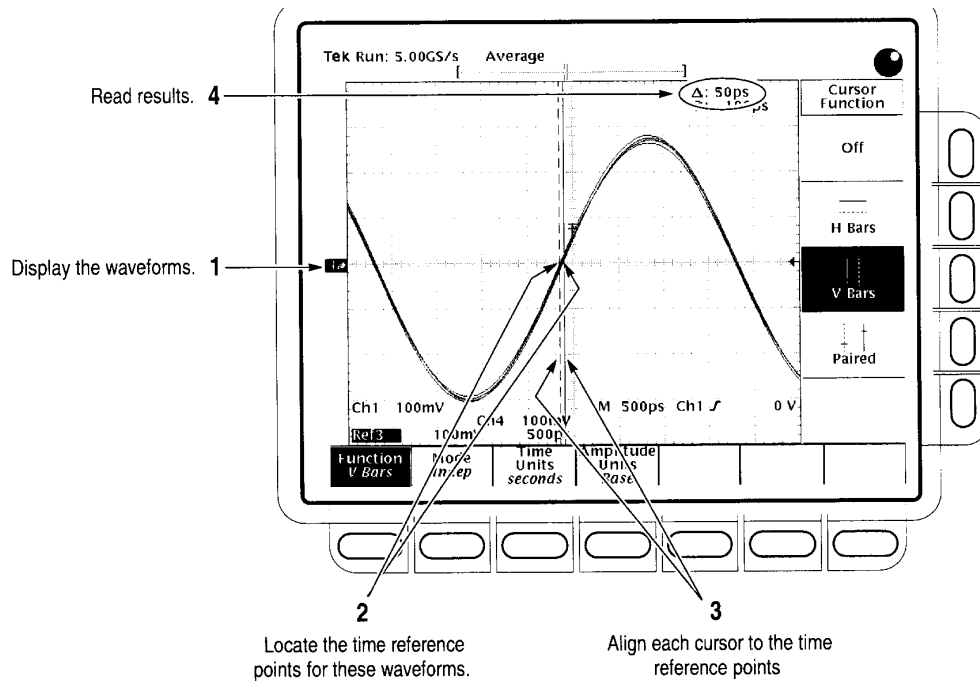

Figure 4. Channel delay.
- (24) Press side-menu **To Ref 3** key.
- (25) Press front-panel **WAVEFORM OFF** key.
- (26) Move dual input coupler from **CH 3** to **CH 4**.
- (27) Press **CH 4** key.
- (28) Verify vertical scale factor is 1.0X.
- (29) Press front-panel **MORE** key.
- (30) Press main-menu **Ref 2** and **Ref 3** keys.
- (31) Locate time reference points for waveforms. Do this by identifying the point where the rising edge of the left-most waveform crosses the center horizontal graticule line. Next, note the corresponding time reference point for the right-most waveform. See figure 4.